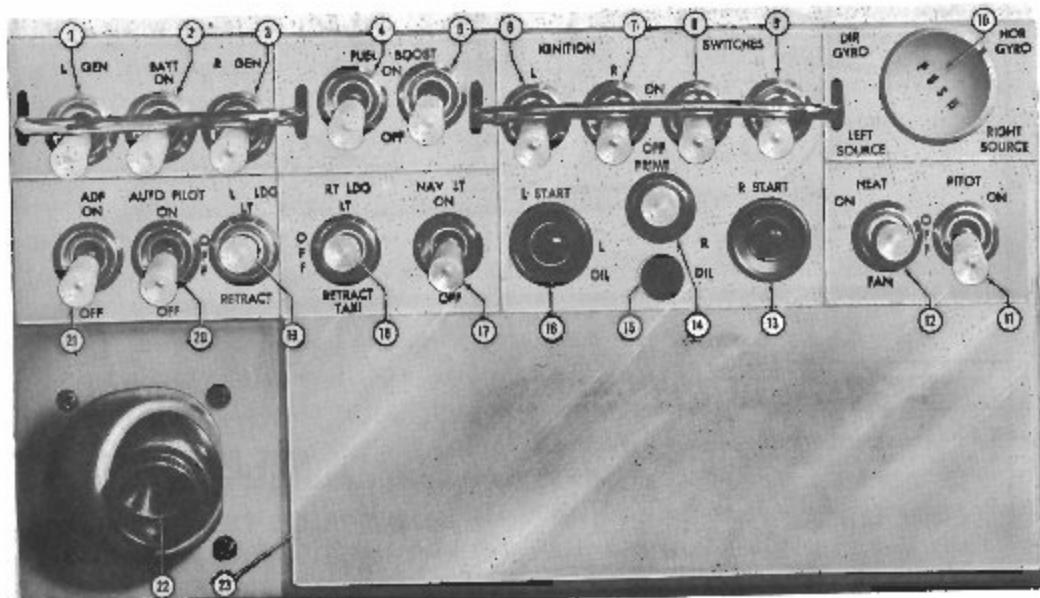

Figure 5. Left Hand Switch Panel
23. Right Hand Switch Panel (See figure 5)
34. Left Hand Switch Panel (See figure 5)
Four ignition switches (6, 7, 8 & 9, figure 5) are provided in the center of the lower left switch panel which is just below and to the left of the pilot's control column. The four switches are located just above the two red-ringed starter buttons. These switches have a bar across them which helps you readily locate them and allows them all to be turned off simultaneously or individually. The switch positions are ON (up position) and OFF (down position).
An engine primer switch (14, figure 5) is provided on the switch panel between the red-ringed starter buttons for use during cold weather operation only. It is a three-pole, spring-loaded switch. When held to the left (L-
Basically, the oil dilution system consists of electrically operated solenoid valves connected by hoses to the fuel and oil systems. A three-pole, toggle switch (15, figure 5) is located on the switch panel between the starter buttons and below the primer switch. Holding the switch to the left
Fuel is supplied to the engines from two rubberized, bladder-type fuel cells; one located in each wing-tip tank. From each tank, fuel is fed through an electric booster pump, a fuel selector valve, a fuel strainer, and through the engine driven fuel pump to the carburetor (see figure 7). The fuel cells provide a total fuel capacity of 102 gallons (51 gallons each fuel cell, of which 50 gallons are usable). The electric fuel booster pumps in the tanks provide a positive fuel flow as emergency pumps in the event of failure of the engine driven fuel pumps and provide fuel pressure for priming and starting. These booster pumps are operated by two electric switches (4 & 5, figure 5) on the switch panel located just to the left of the ignition switches, and the up position is ON.